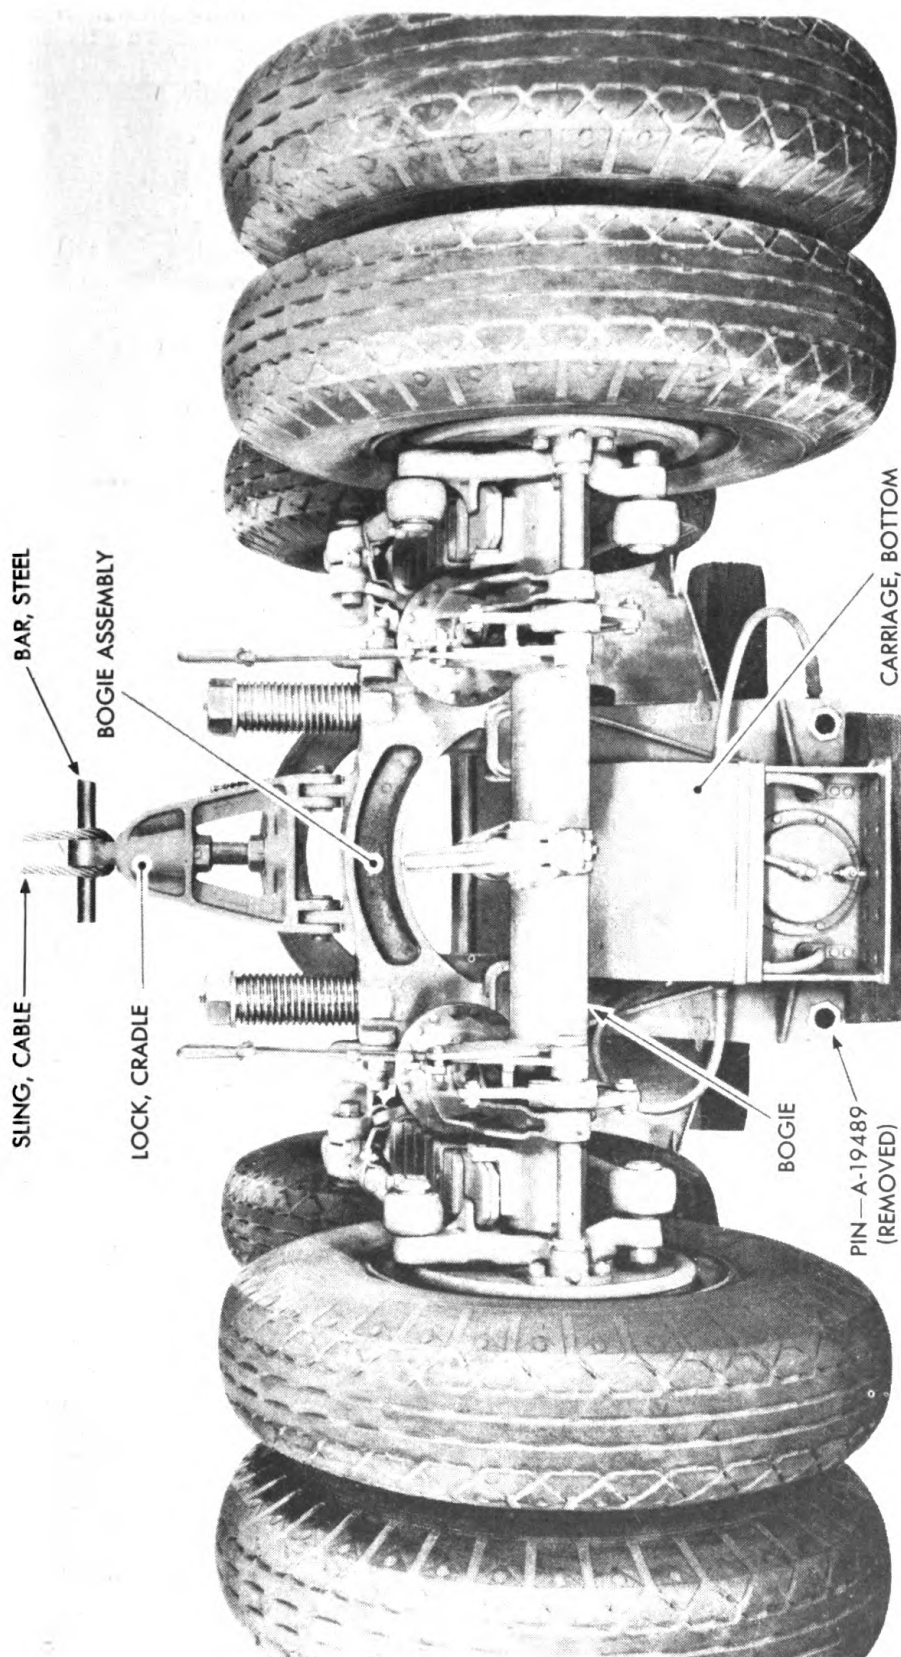

Figure 56—Removing Bogie from Bottom Carriage
j. Place a round steel bar 12 inches long x $1\frac{3}{8}$ -inch diameter through hole in cradle lock eyebolt (fig. 56). Then, place a heavy cable sling around the steel bar, attach sling to crane lift hook, and lift bogie assembly away from bottom carriage.